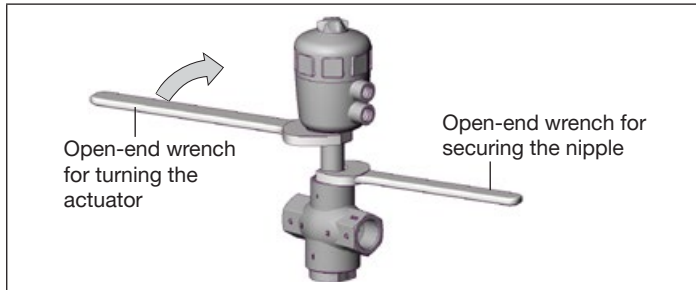

Fig. 5: Turning with open-end wrench
- Place a suitable open-end wrench on the hexagon of the actuator (see "Fig. 5").
- ▶ Turn the actuator in the specified sense of direction only (see "Fig. 5").